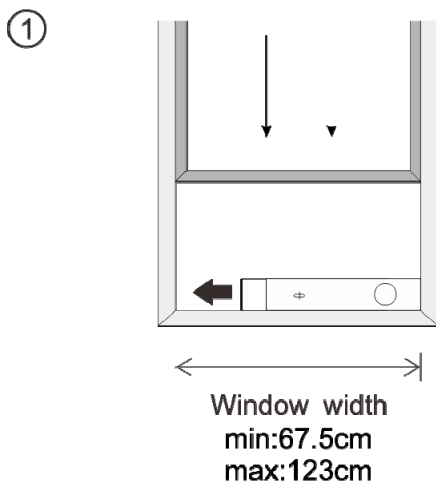

Fig.5
The installation manner of window slider kit is mostly in “horizontal” or “vertical”. As shown Fig.5 and Fig.5a, check the min. and max. size of the window before the installation.
1. Install the window kit on the window (Fig.5, Fig.5a);